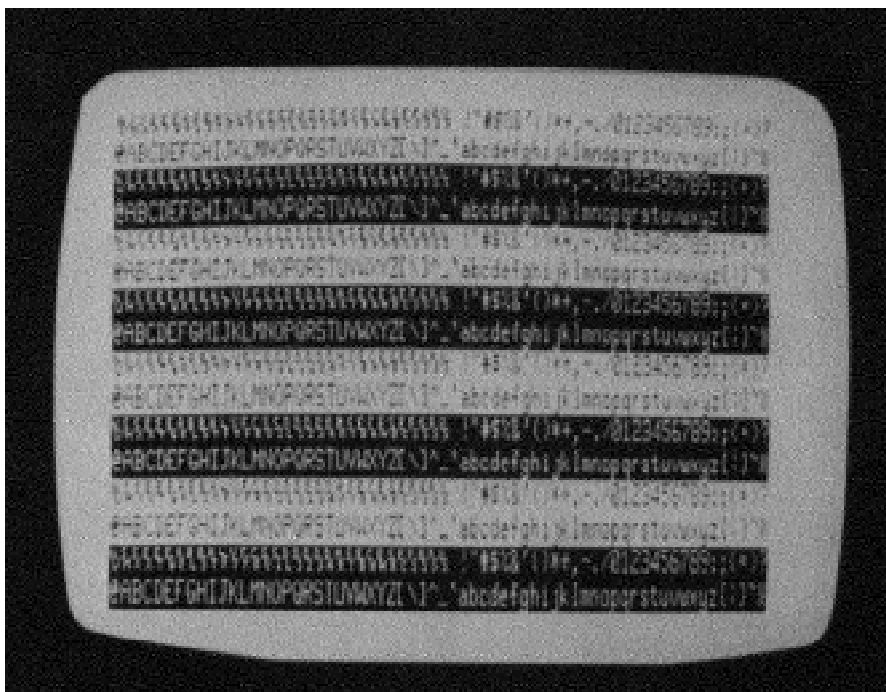

Figure 3-8. Display circuits test pattern with 6575 character generator as U25. 6574 is the same except graphic control characters are displayed.
- () Momentarily ground pin 1 of U2 and pin 5 of U75. The display shown in Figure 3-8 should appear on the monitor screen.